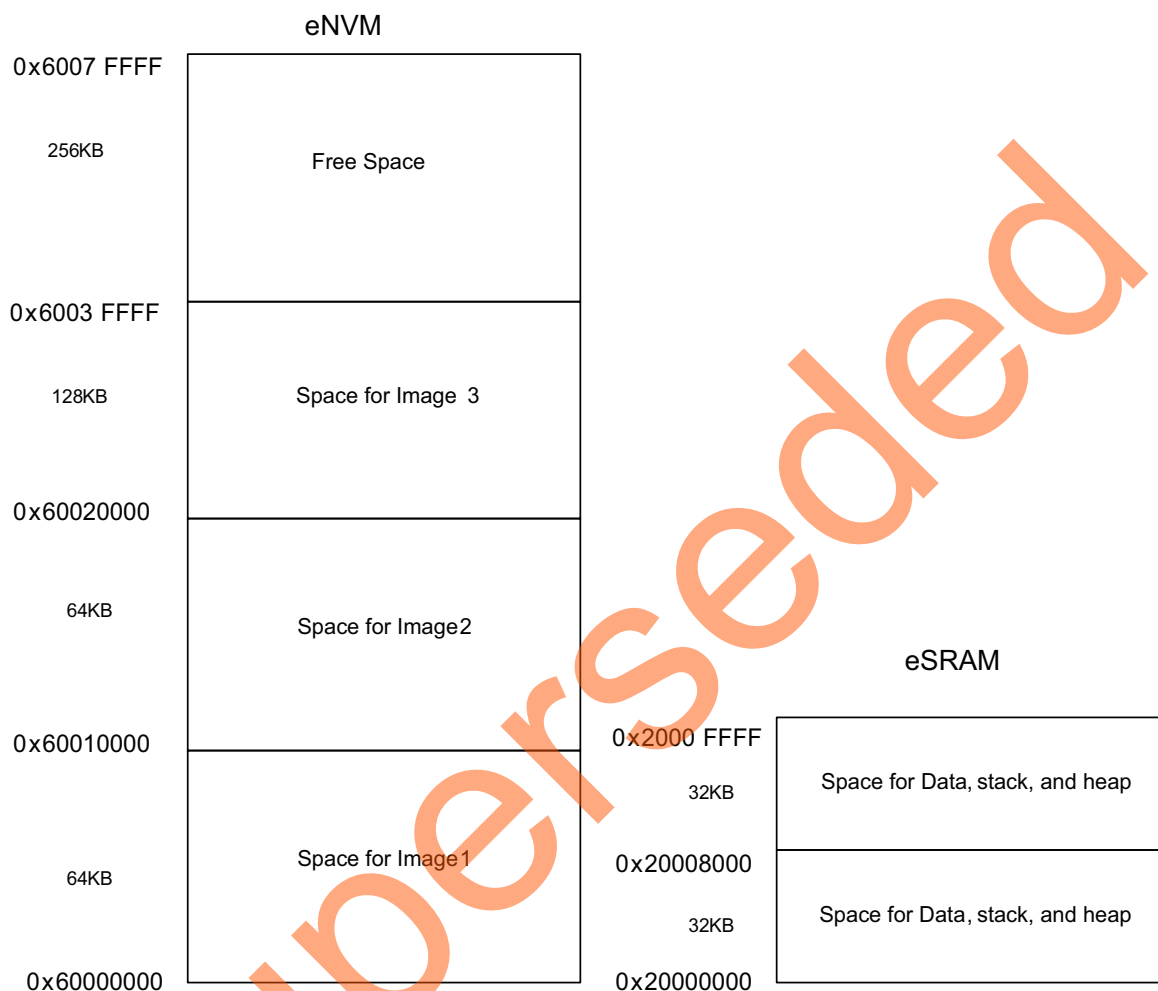
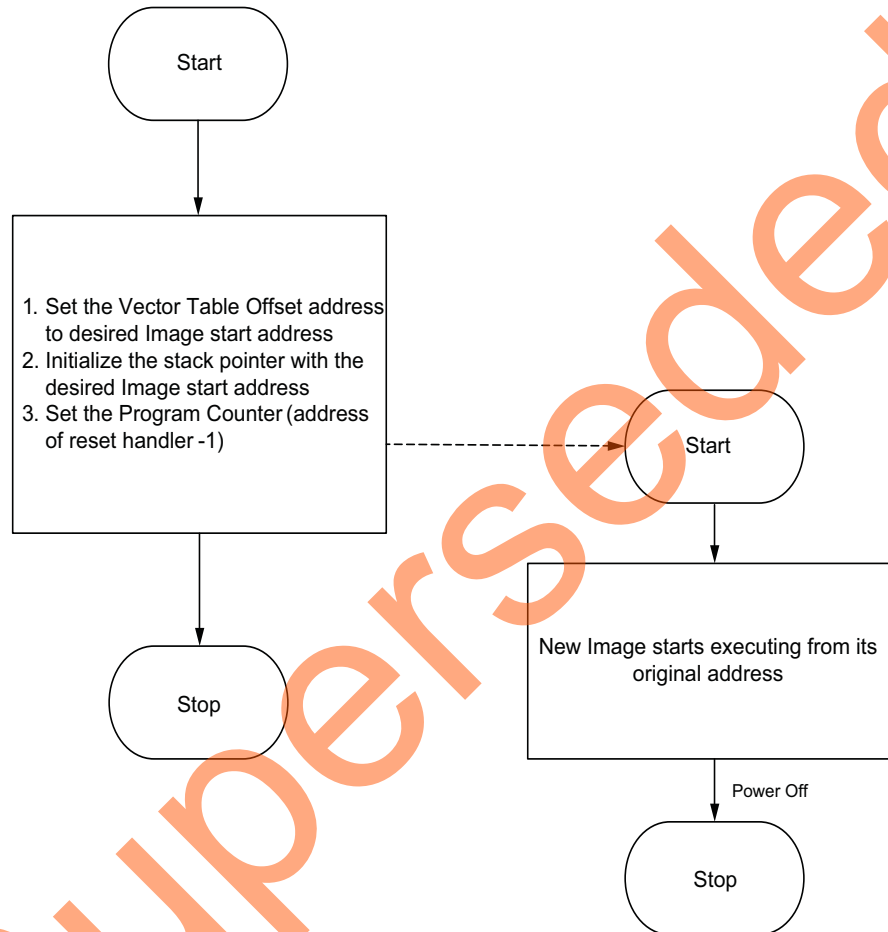
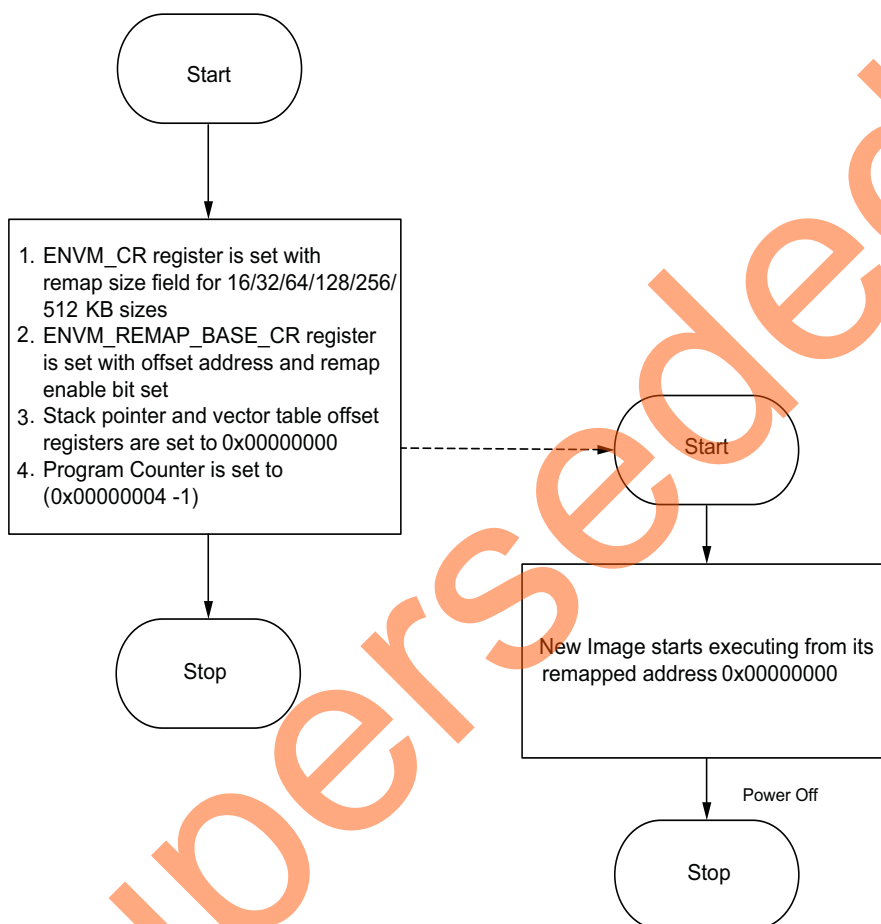

Figure 8 • Example Scenario of Multiple Executable Images in eNVM
Figure 9 • Logic for Moving Execution Control to New Image in eNVM without Remapping
Figure 10 • Logic for Moving Execution Control to New Image in eNVM with Remapping
Figure 8 shows an example scenario with multiple executable images in the eNVM regions.
In the example scenario (as shown in Figure 8), there are three images, which can be remapped to the starting address of the Cortex-M3 processor code space, or can be made executable for the Cortex-M3 processor. To create the independent executable images with the required memory map, it is required to create the linker scripts with the required memory map. The linker scripts are provided in the "Appendix A: Design Files" section. Once the executable images are created for the required memory map in Production mode, these images are added in the programming file using the eNVM clients in the Libero SoC hardware (HW) creation flow.
- **Without Remapping:** By default, the eNVM base address 0x60000000 is remapped to the starting address of the code space of the Cortex-M3 processor. The vector table address of the desired image can be set by using the vector table offset register in the system registers, and pointing the stack pointer (SP) and program counter to the reset handler address of the desired image. This allows the Cortex-M3 processor to execute the new image. The eNVM offset address must be used in the linker script generation for the executable images in this approach. This approach is explained in the flow chart shown in Figure 9.
For example, for the memory map of the different images explained in the Figure 8 on page 9, the images are built with the base address as shown in Figure 8 on page 9. To run Image 2 while Image 1 is running, use the following steps, as shown in Figure 9:
- **With Remapping:** In this approach, the new image address can be remapped to the starting address of the code region of the Cortex-M3 processor by using the ENV_M_CR, ENV_M_REMAPSIZE, and ENV_M_REMAP_BASE_CR registers. As the new image address is remapped to the bottom (0x0000_0000) of the Cortex-M3 processor code region, the linker scripts take care of building the images from the bottom (0x0000_0000) code region. The eNVM offset address must not be used in this approach. This approach is explained in the flow chart shown Figure 10.
For example, for the memory map of the different images explained in the Figure 8 on page 9, the images are built with 0x00000000 as base address. To run the Image 2 while Image 1 is running, use the following steps (explained in Figure 10):